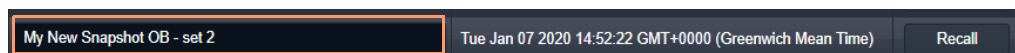

Figure 108: Enter New Snapshot Name
- 2 Enter a new name. (See Figure 108.)